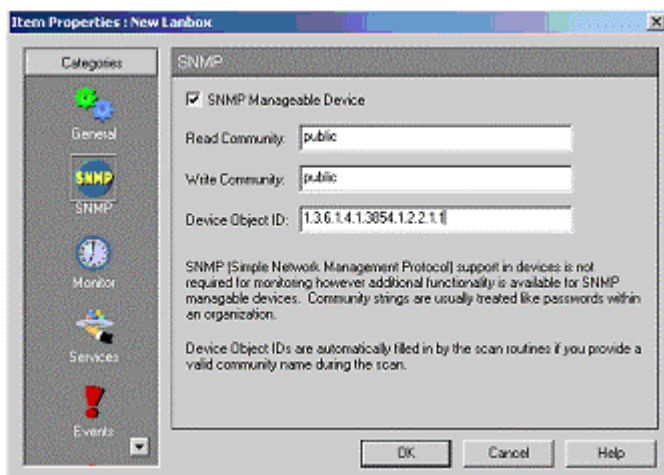

Figure 3 SNMP Property page
3.5 Enable SNMP Manageable Device as show in Figure 3.